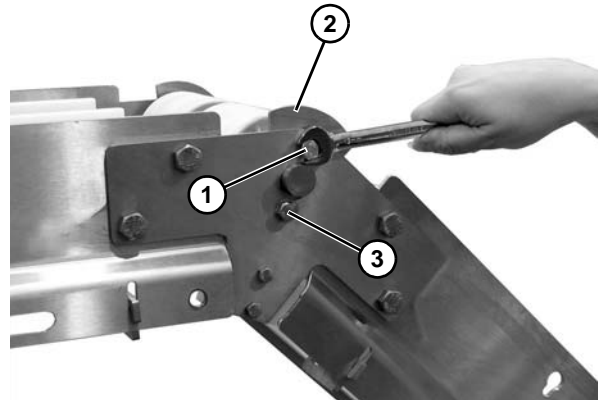
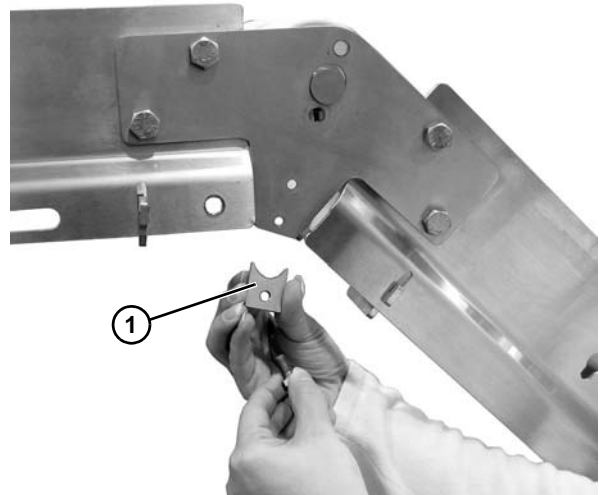

Figure 61
Figure 62
2. Remove cap screw (**Figure 61, item 1**) and edge guide plate (**Figure 61, item 2**) from each side of the conveyor.
3. Remove the cap screw (**Figure 61, item 3**) and shaft clamp (**Figure 62, item 1**) from each side of the conveyor.